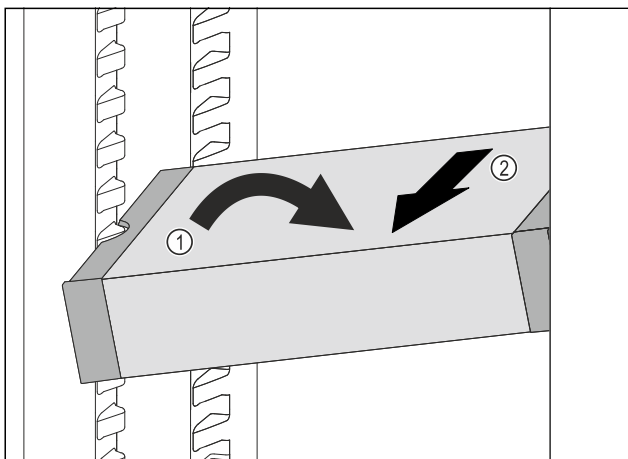

Fig. 69
- ▶ Set VarioSafe in refrigerator compartment at an angle. Fig. 69 (1)
- ▶ Take VarioSafe out to the front. Fig. 69 (2)